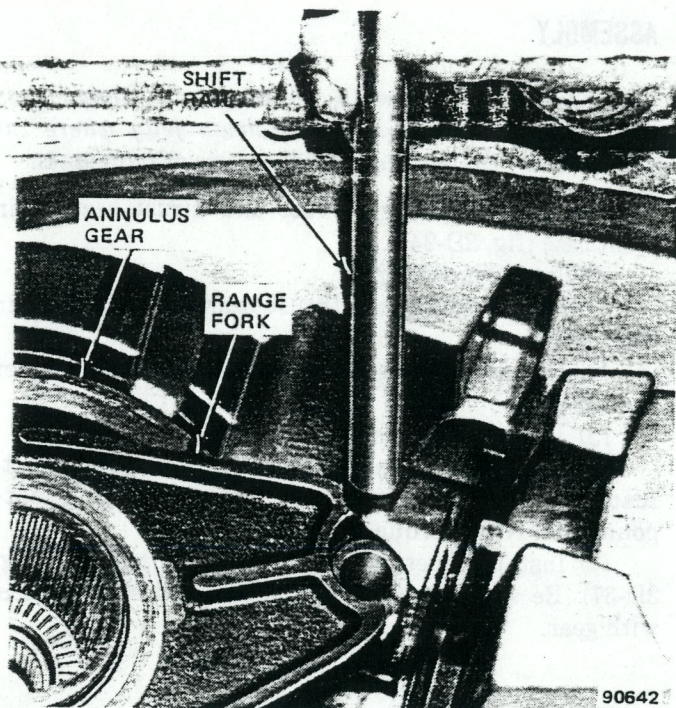

Fig. 2D-38 Annulus Gear and Shift Rail Installation
**NOTE:** Be sure the range fork lug is fully inserted in the range sector slot (fig. 2D-21).
(11) Install annulus gear thrust washer and retaining snap ring (fig. 2D-20).
(12) Align shift rail bores in case and range fork and install shift rail (2D-38).